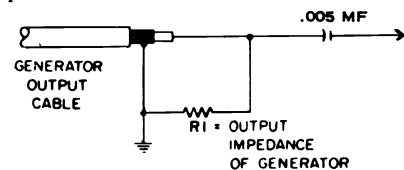

Figure 9 - Generator Cable Termination
Generators - Except where otherwise noted, all signal generating equipment should be terminated as shown in Figure 9. Connect the signal cable ground near the ground of the stage where the signal is injected. Adjust the CW generator output so that: (1) When the VTVM is being used its reading remains near the -1 volt point. (2) When the oscilloscope is being used the marker frequencies do not distort the response curve.